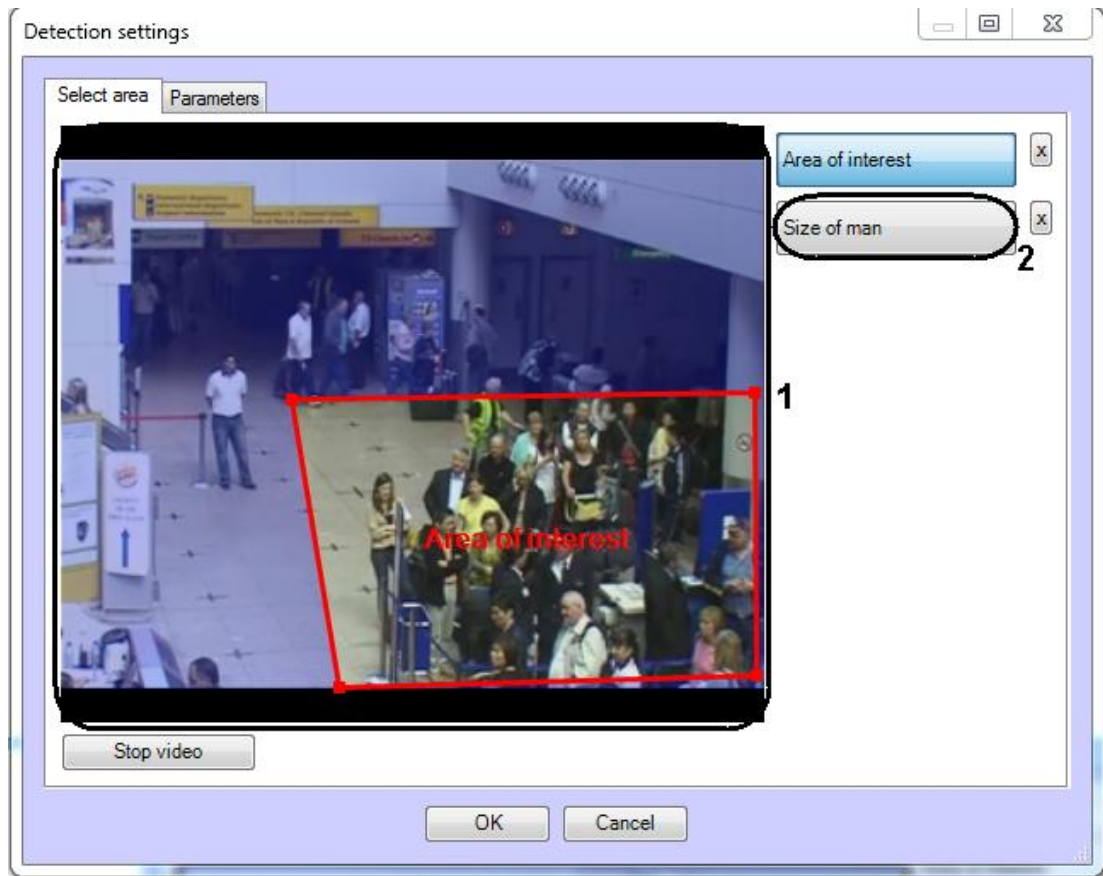

Fig. 6.1—4 Setting area of interest
3.4 Click **Size of man** (see Fig. 6.1—4, 2).